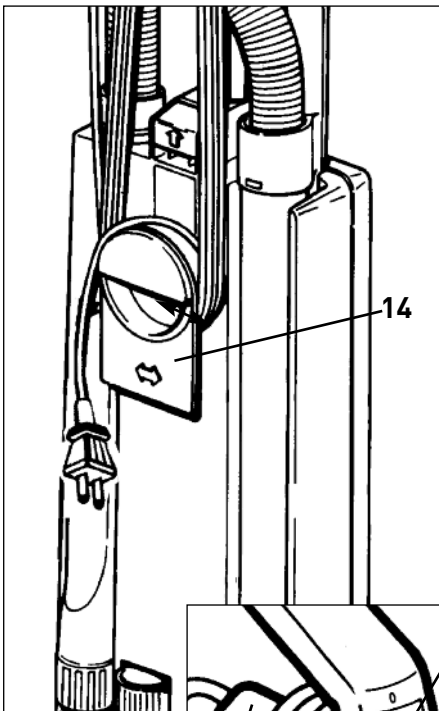

Figure 1
Starting The Machine - Figures 1 & 2
1. Turn the quick release cable hook (14) to the up position by moving it to the left or right (figure 1).